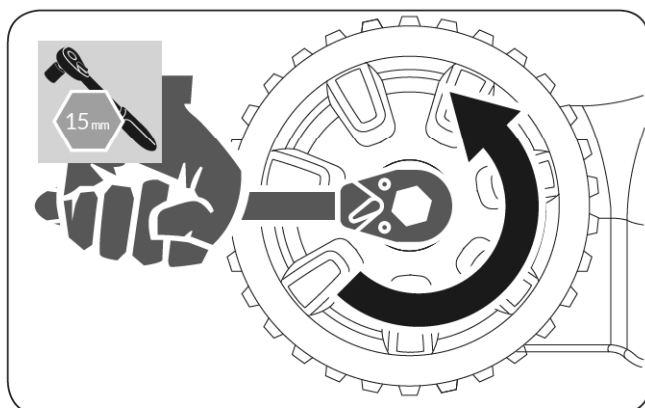

Figure 29
2. Remove the wheel nut and wheel from the wheel axle, using a 15 mm socket wrench. (See **Figure 29**)